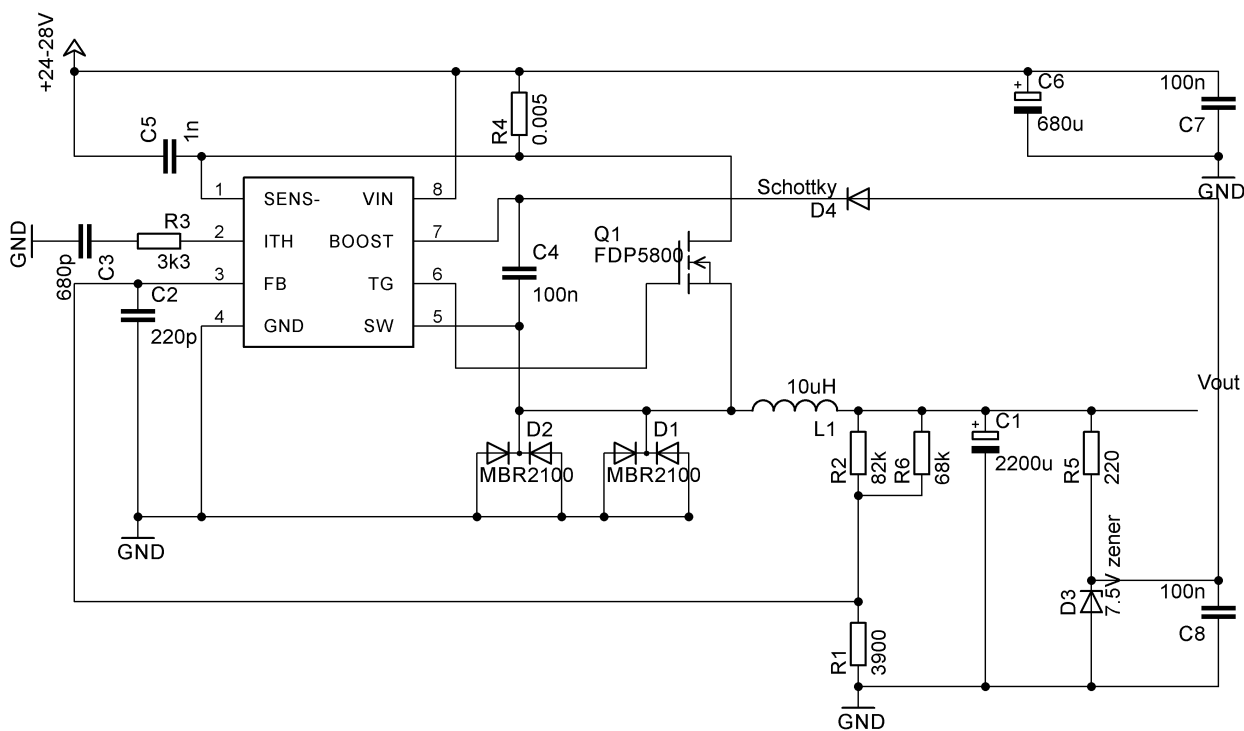

Figure 1 Circuit diagram
The implementation in Figure 1 is based upon the application circuit for a 24V to 12V/10A buck converter with output-derived boost voltage. G3WDG's original 12 to 6V circuit dispensed with the output-derived boost voltage, but modelling using LTSpice (2) showed that due to the higher input-output differential this was required. This improves efficiency.
The switch circuit uses a single logic level Power FET and a pair of double diodes in a conventional buck circuit. The electrolytic capacitors are low ESR types as the AC ripple current flowing in them is very high. Using other than low-ESR components will cause them to run hot. The FET and diodes dissipate little power so need little heatsinking. I found that when bolted to the side of a diecast box (Fig 1) or if fitted with small heatsinks they run cool.